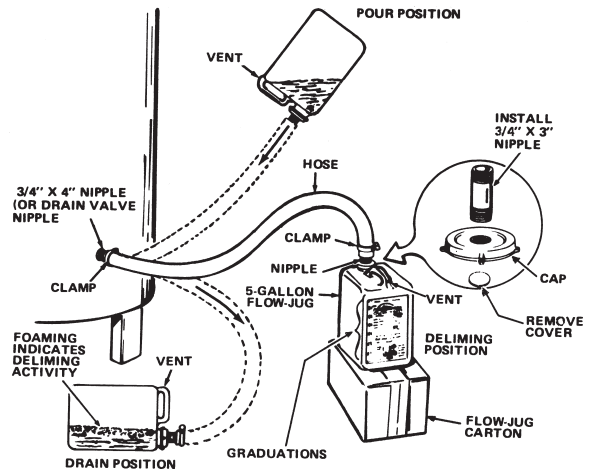

FIGURE 27.
- Lift container to the "Pour" Position, see Figure 27, being careful to keep the vent in the handle above the liquid level
- Let UN•LIME remain in the heater for 5 minutes and then lower the container to the "Drain" Position, see Figure 27.